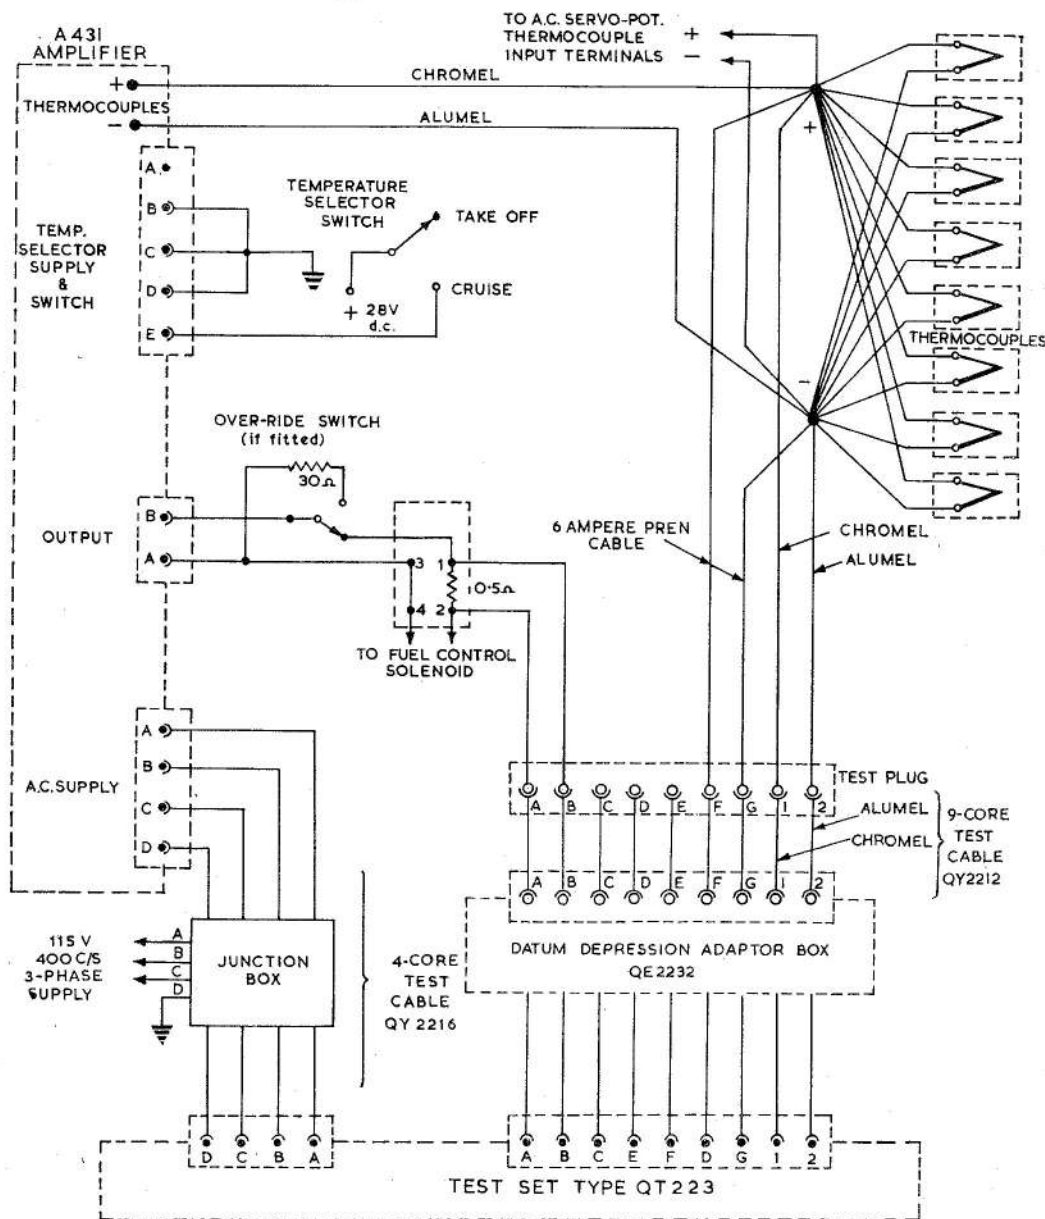

Fig. 6. Aircraft test circuit
(2) Ensure that the galvanometer is CLAMPED.
(3) Switch off the power supply and disconnect the test leads.
40. The equipment required for the aircraft test, using Ultra QE2230 test set, is detailed below and is connected as shown in the test circuit (fig. 6).
47. (1) Set aircraft TEMPERATURE SELECTOR switch (fig. 6) to the TAKE-OFF position.